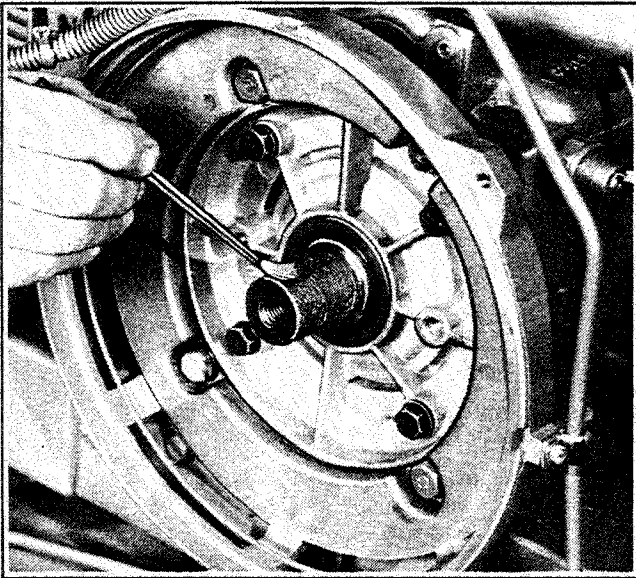

Figure 8-13. Applying Anti-Seize Compound
2. Apply anti-seize compound to the tapered end of the stub shaft. See Figure 8-13.